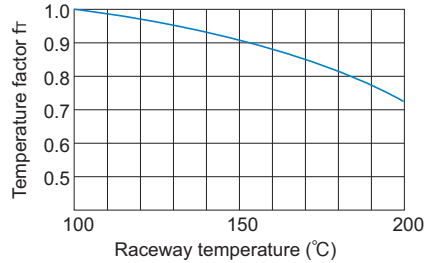

Fig.2 Temperature Factor (f_t)
- C : Basic dynamic load rating (N)
- P_C : Calculated load (N)
- f_T : Temperature factor (see Fig.2 on **B4-37**)
If the temperature of the environment surrounding the operating Linear Bushing exceeds 100°C, take into account the adverse effect of the high temperature and multiply the basic load ratings by the temperature factor indicated in Fig.2.